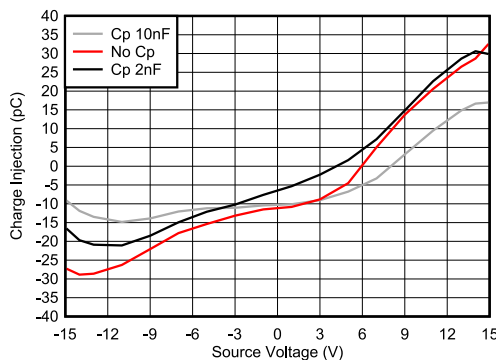

Figure 8-3. Charge Injection Compensation
The TMUX7219-Q1 contains specialized architecture to reduce charge injection on the source (S_x). To further reduce charge injection in a sensitive application, a compensation capacitor (C_p) can be added on the drain (D). This will ensure that excess charge from the switch transition will be pushed into the compensation capacitor on the drain (D) instead of the source (S_x). As a general rule of thumb, C_p should be 20× larger than the equivalent load capacitance on the source (S_x). Figure 8-3 shows charge injection variation with source voltage with different compensation capacitors on the drain side.